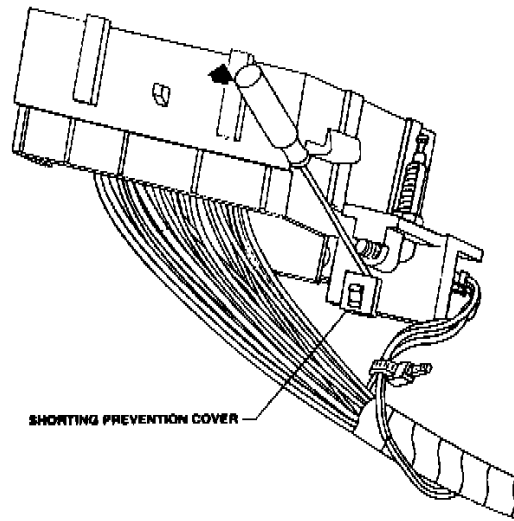

FIGURE 3
7. Remove small shorting prevention cover from lower portion of stud assembly (Figure 3).